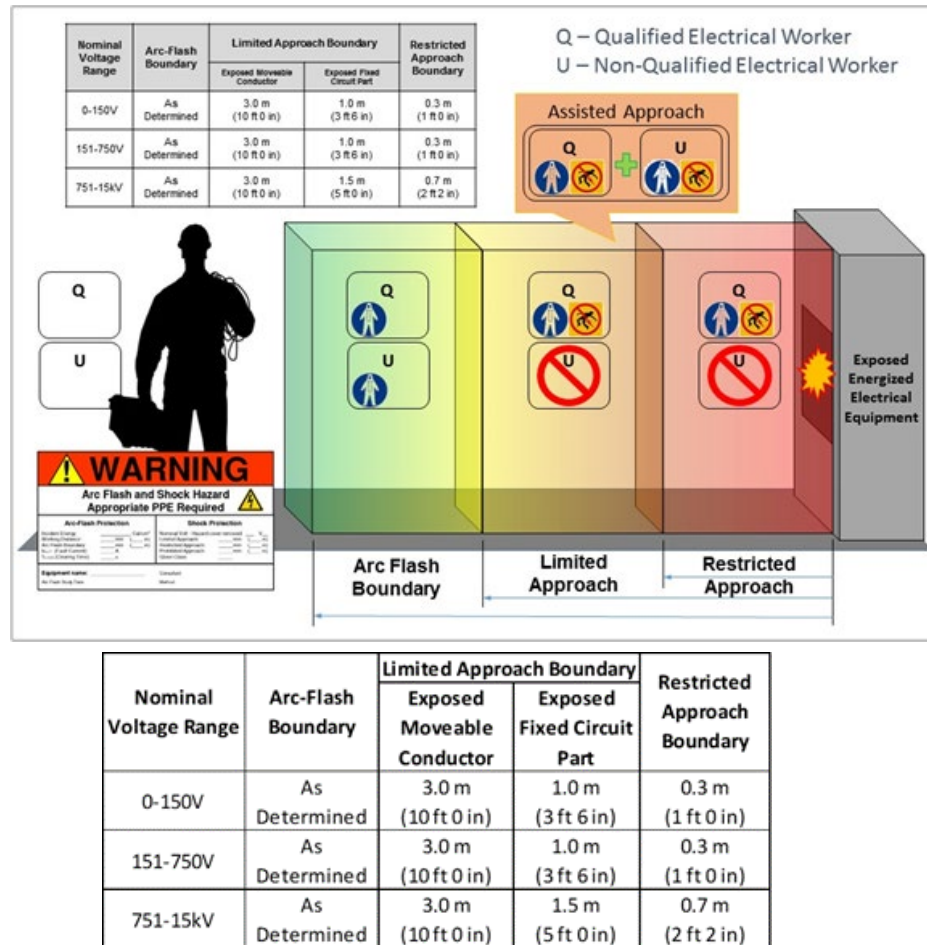

Figure 1 Approach Boundaries for Shock, Qualified Electrical Worker vs. Unqualified Personnel (e.g. Non-Electrical Worker)
4.9 Non-qualified personnel shall remain outside the shock protection or Arc Flash Boundaries when energized work is being performed. See Figure 1 below.
**Note:** See Figure 1 below for 6.9 - 6.12
- 9.1 Work area shall be established and marked around energized work at either the Limited Approach Boundary or Arc Flash Boundary (whichever distance is greater) as defined in Figure 1.